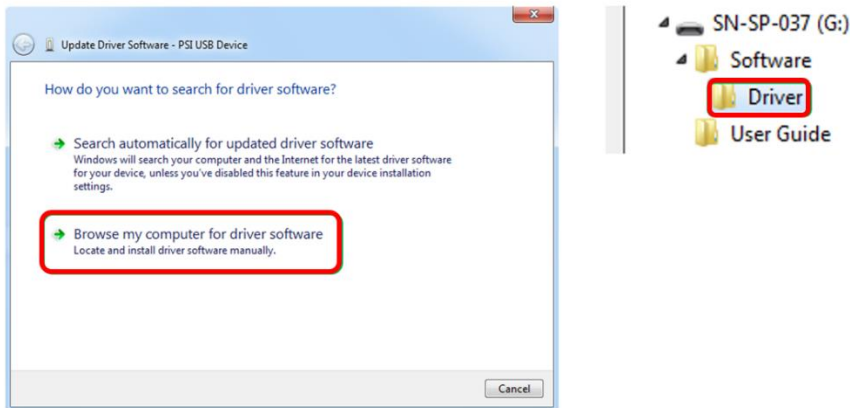

Fig. 16 Choose the driver from the USB disc.
- Click **Browse** my computer for driver software and select Driver folder on the PolyPen installation disk. Allow the installation even if the warning message appears (Fig. 16)